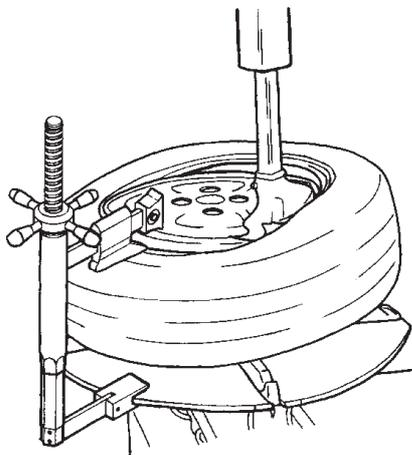

Fig.24
C. Mount the upper bead following the directions in section B. With low profile tires the bead depressor tool (option EAA0247G11A Fig.24) can help to prevent the top bead from prematurely seating during the mounting cycle.
C. Monter le talon supérieur de la même façon. Pour les pneus taille basse, utiliser l'étau de montage en option (#EAA0247G11A Fig. 24).